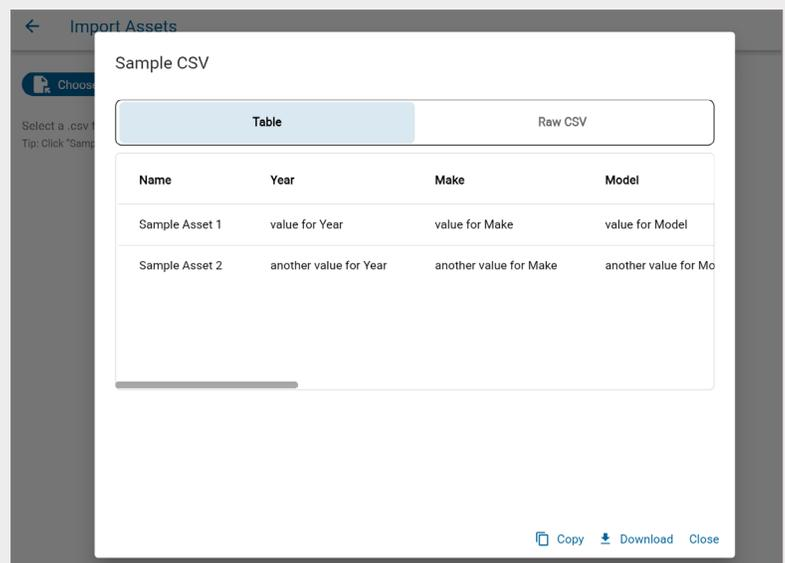

Fig. 75 – Sample CSV window (assets)
**Note:** You can view the CSV format and access a template by clicking **Sample CSV**. In the **Sample CSV** window (shown in Fig. 75), select **Copy** to copy the template. If you are using KEYper GO Web, click **Download** to download an Excel version. When finished, select **Close**.